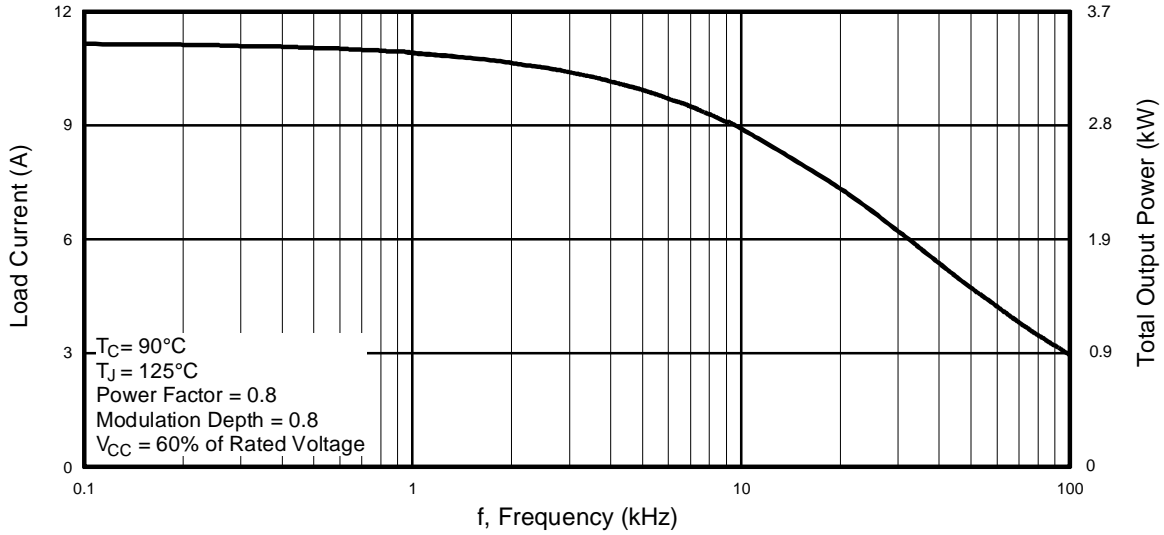

Fig. 1 - RMS Current and Output Power, Synthesized Sine Wave
- Optimized for medium operating frequency (1 to 10kHz) See Fig. 1 for Current vs. Frequency curve
4.6 A_{RMS} per phase (1.4 kW total) with T_C = 90°C, T_J = 125°C, Supply Voltage 360Vdc, Power Factor 0.8, Modulation Depth 80% (See Figure 1)